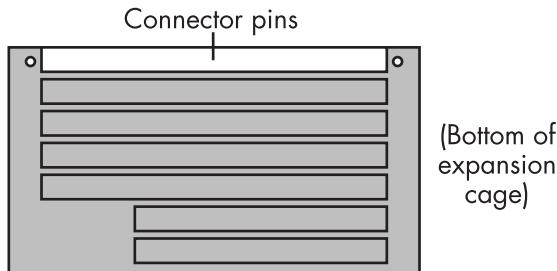

Figure 11: Expansion cage connector pins
2. Inspect the connector pins on the outside bottom of the expansion cage as shown in Figure 11. Make sure that no pins are bent or touching.